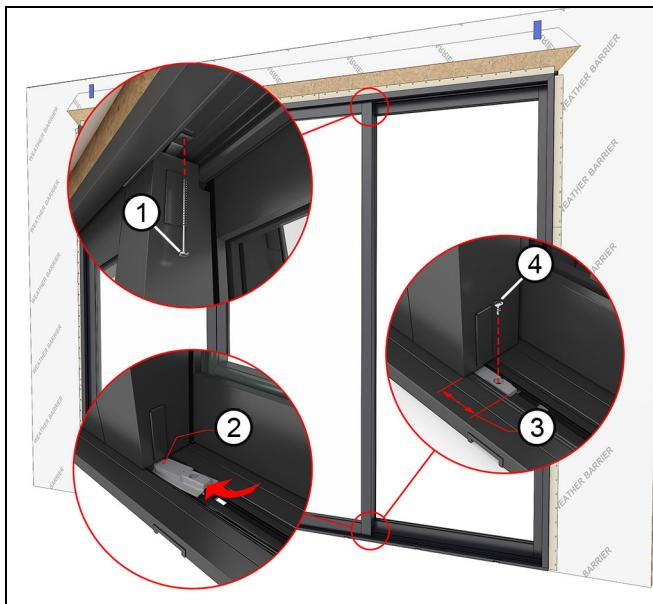

Figure 122
13. Snap the lower stationary bracket onto sill, slide underneath the panel until fully seated. Bracket should stick out approximately $2\frac{1}{4}"$ from the panel when fully seated. Secure with a $\#8 \times 1/2"$ Phillips self-drilling screw through the bottom stationary bracket into the sill. See Figure 122 \(2, 3, and 4\).
14. Bend top stationary bracket of (C) stationary panel up against the head jamb, pre-drill a $3/16"$ hole through the head jamb using the bracket as a template. Fasten through the bracket into the head jamb framing with a $\#10 \times 3"$ installation screw. Shim as needed taking care not to bow the head jamb. See Figure 122 \(1\).